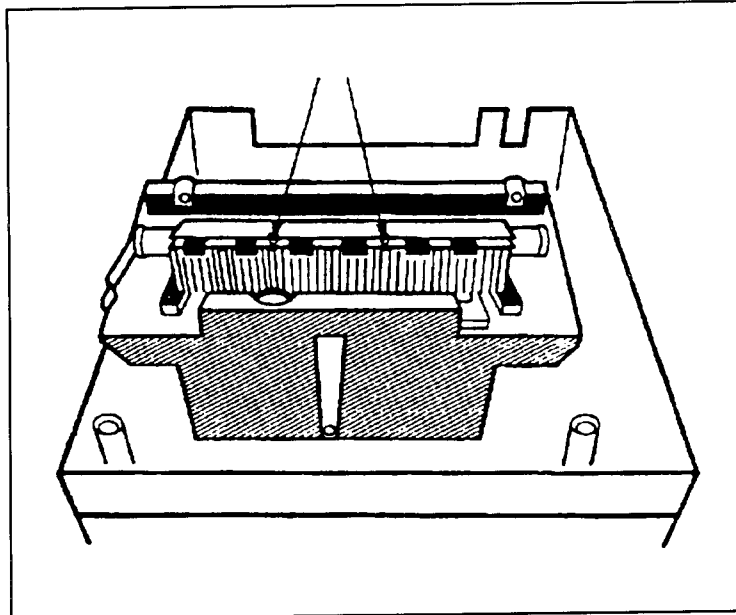

Figure 6-18. Printbar Cable Routing Bracket Screws
- c. Remove the two screws (#1 pozidrive) which secure the hammer driver cable/bracket (see Figure 6-18).